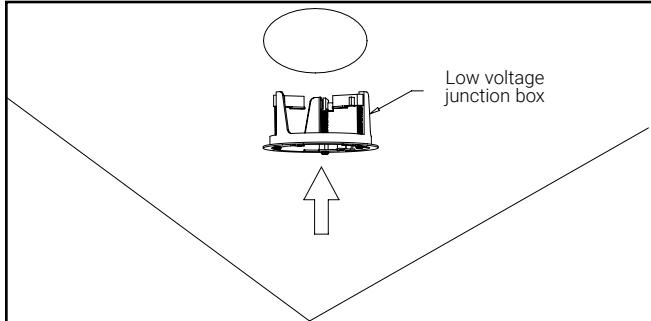

Figure 15.
5. Make hole and install low voltage junction box. See Figure 15.